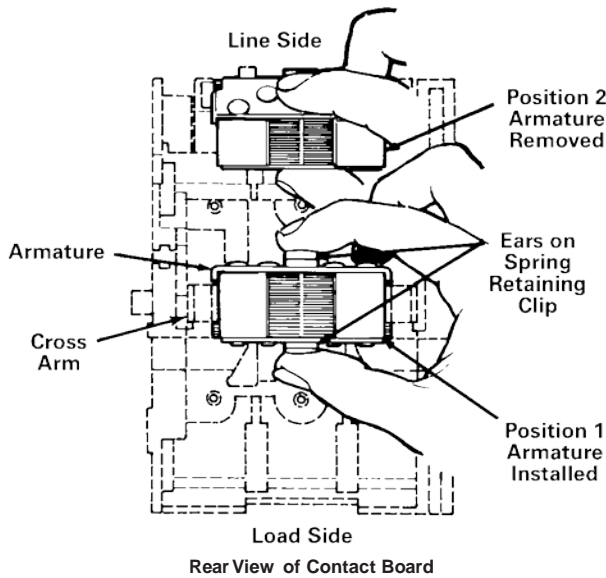

Figure 2
7. The cross arm and armature assembly arrangement is a wide throat T-slot (cross arm) and T-section (armature). Holes in the armature retaining clip and insulation barrier engage a projection on the cross arm. With the contact board positioned as shown in Figure 2, press on the cross arm to bottom it on the contact board. While bottoming cross arm, grasp ears on the armature retaining clip (position 1) and pull the armature and clip away from the contact board to release clip from cross arm and to clear contact board projections. Then immediately slide the armature and clip toward position 2. When the armature is removed, the cross arm is free to be removed from the contact board. Discard old cross arm and springs.
2. Place the armature in the retaining clip. Place the cross arm in the contact board and position the board as shown in Figure 2. While pressing the cross arm to bottom it on the contact board, slide the armature and clip from position 2 to position 1, where the armature retaining clip will snap into the cross arm. Manually operate the cross arm and check that the cross arm moves freely.